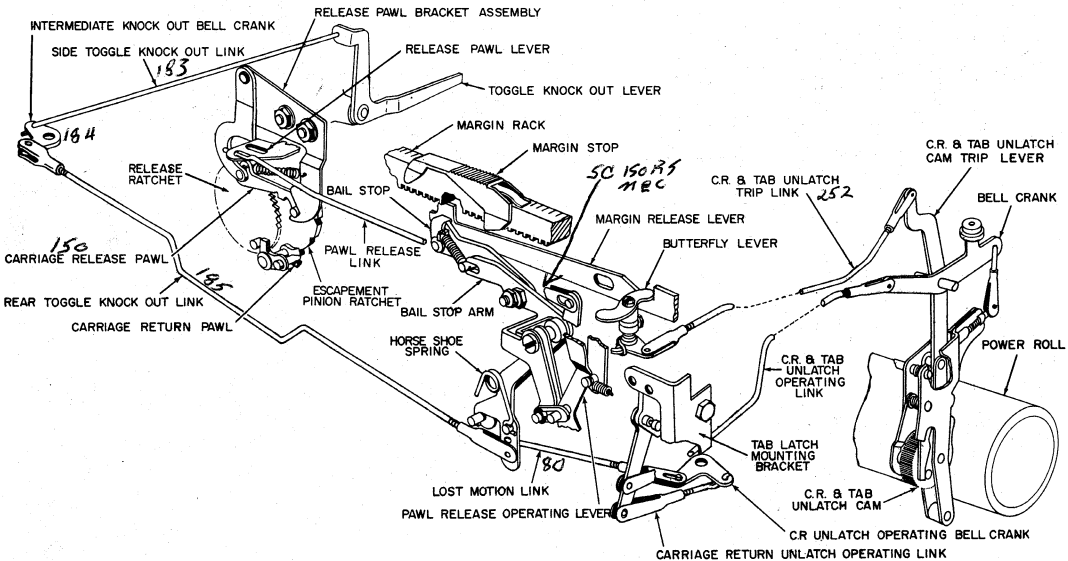

Figure 35 Carriage Return Latching
4. Disconnect the following links at their adjustable end: (Figure 35 & 36)